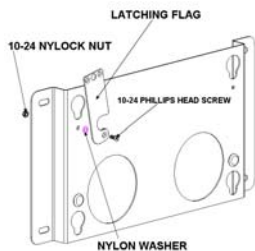

Figure 3
1. Using 10-24 Phillips head screws, nylon washers, and Nylock nuts (See Figure 3), attach latching flags to mount. Tighten until friction will hold the flags in place.